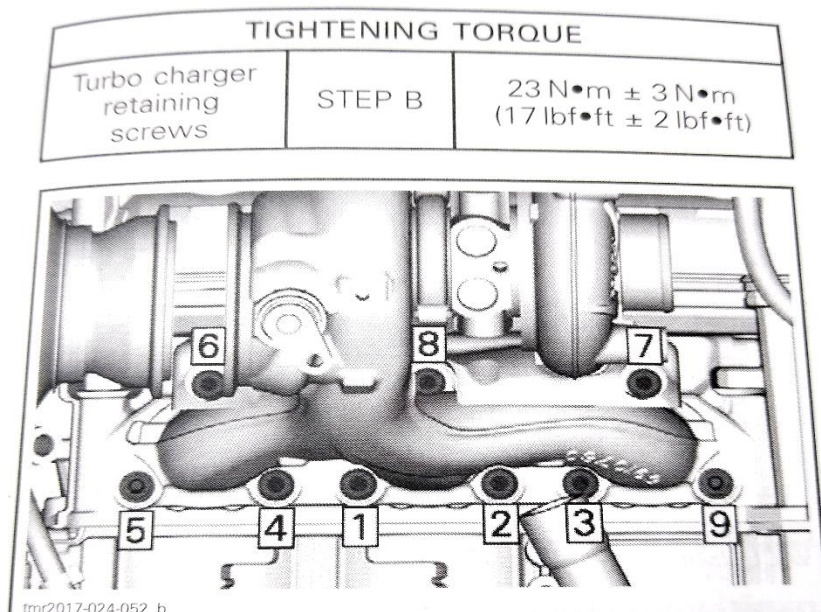

Figure 3
**Step 5:** Torque retaining screws to 17 ft-lb, following the order shown in Figure 3. On the final torque sequence take a 4mm Allen wrench and hold stud while tightening copper nut with 10mm wrench as close to 17 ft-lb as you can. (make sure you have at least 2 threads protruding from nut)